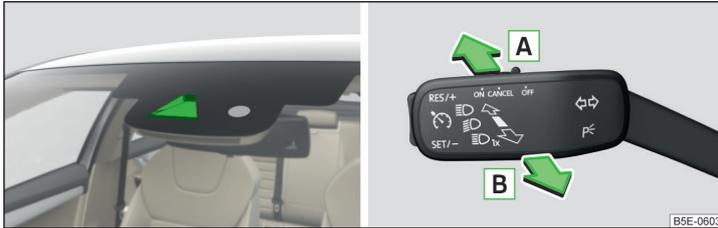

Fig. 50 Sensor window for the high-beam assistant / system on / off
The high beam on/off is controlled by a sensor or a camera » Fig. 50.
- To **turn on** the system, push the operating lever into the sprung position **A** » Fig. 50, the warning light **⊞** illuminates in the instrument cluster display.
- To **turn off** the main beam, which has been switched on automatically, push the lever into the sprung position **B** » Fig. 50, the warning light **⊞** goes out.
- To **manually switch on** the main beam, push the lever into the sprung position **A** » Fig. 50, the warning light **⊞** goes out.